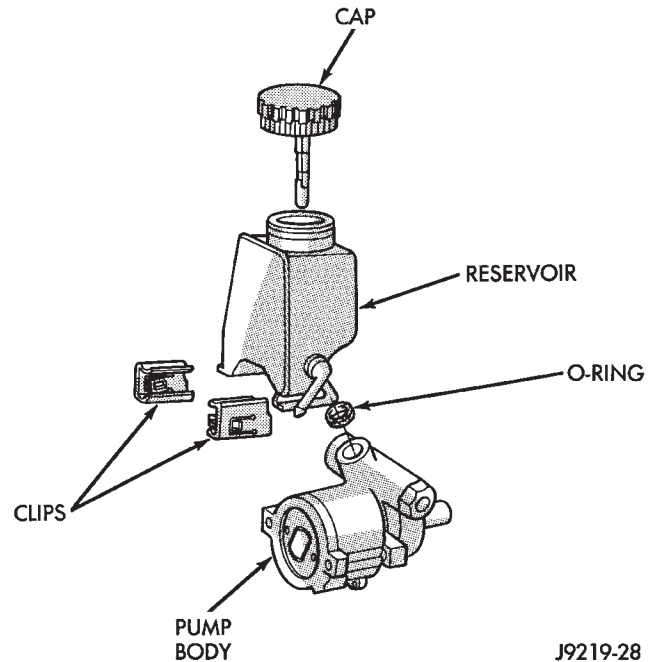

Fig. 8 Remove Reservoir (Typical)
- (5) Remove fluid reservoir from pump body. Remove and discard O-ring seal (Fig. 8).